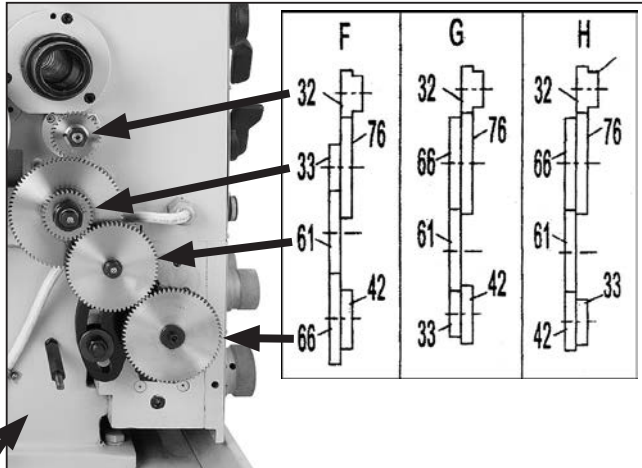

Figure 54. Change gear and chart relationship.
—"F" is the first letter in the sequence and indicates that the change gears must be rearranged in the "F" order (see **Figure 54**).
- Leaving 0.003"–0.005" backlash between gear teeth, arrange the change gears to match the order under "F" (see **Figure 54**).